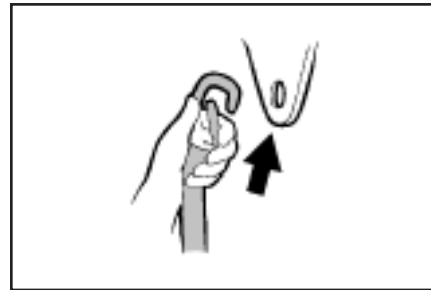

Figure 2
4. Attach the round hook to the trolley in the track (Figure 2).